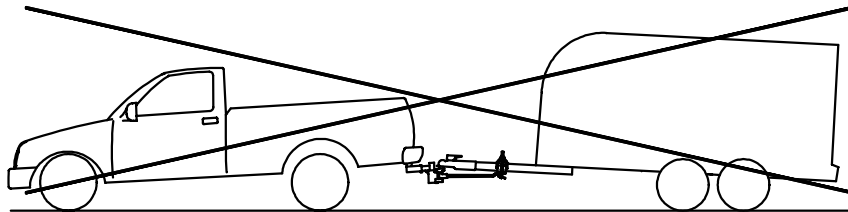

Figure 12
- The front of the vehicle should never settle more than the rear. See Figure 12. If necessary increase the number of chain links between lift unit and spring bar.